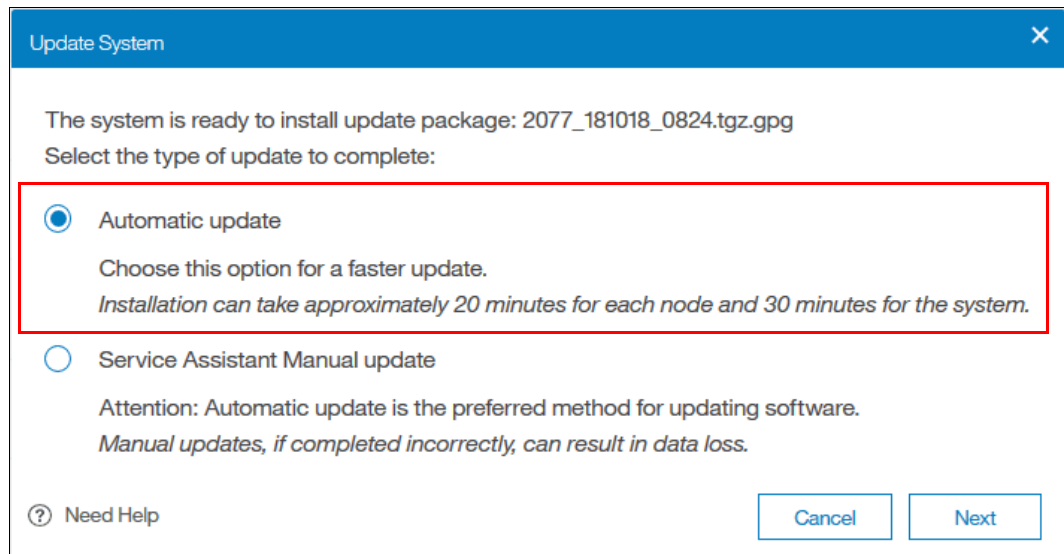

Figure 12-33 Automatic update selection
3. Select **Automatic update** and click **Next** to come to the next question regarding paused update, as shown in Figure 12-33. The **Automatic update** option is the default and advised choice.